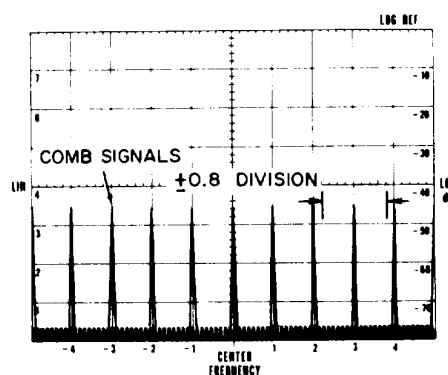

Figure 4-4. Scan Width Accuracy Measurement
2. Set comb generator for a 100 MHz comb. A comb signal occurs every 100 MHz on the CRT display (see Figure 4-4). Tune FREQUENCY and FINE TUNE to line up a comb signal with the far left graticule line.